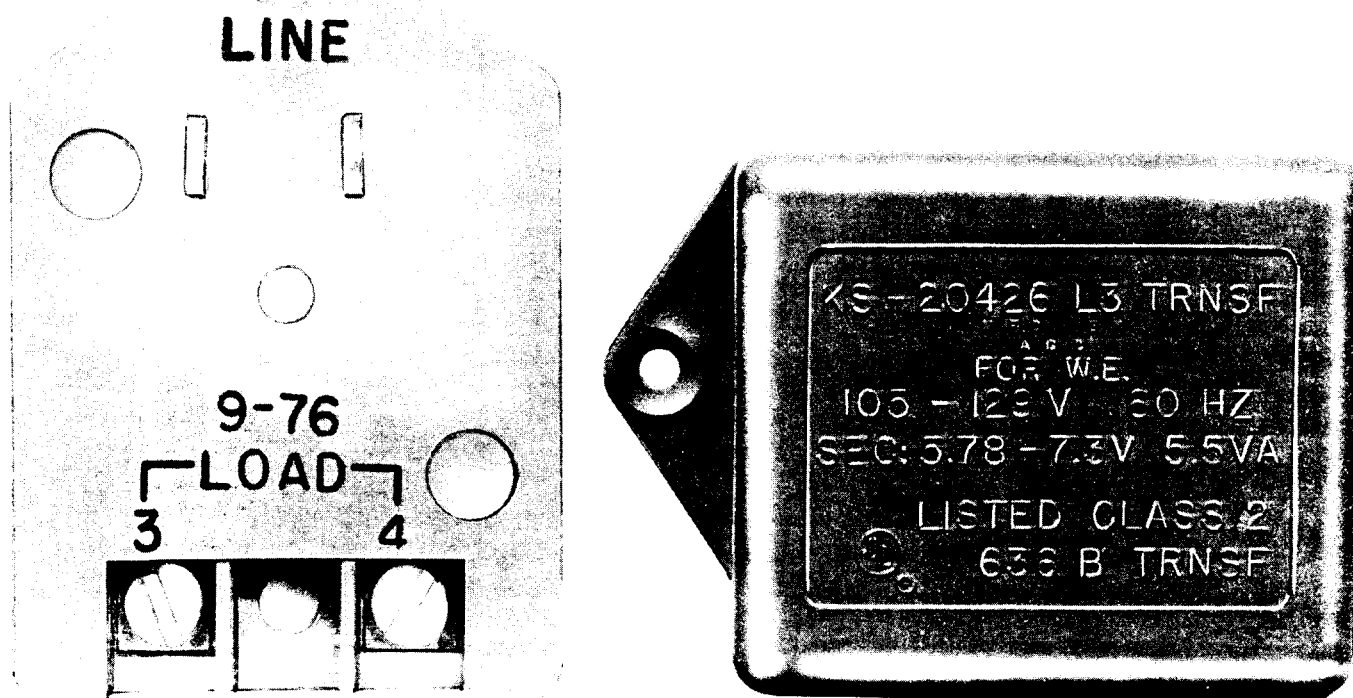

Fig. 14—KS-20426 Type (MD) Transformer Equipped With Molded Mounting Tab
5.03 Some transformers are provided with a mounting tab which is used to hold the transformer securely in the receptacle by using the outlet cover screw. See Fig. 14.